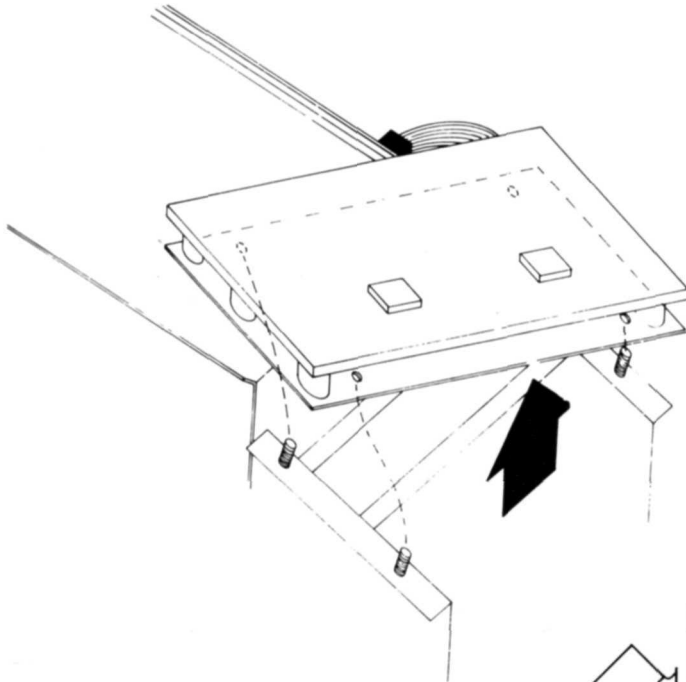

Figure 15. Removing the Front Panel
4. Lift the front panel assembly off the four positioning screws as shown in Figure 15.